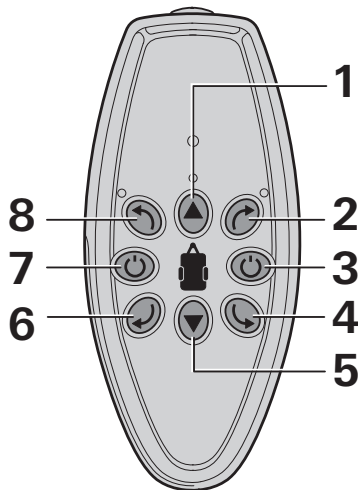
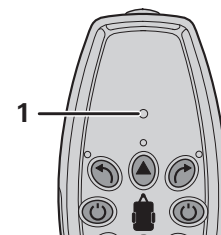

Figure 2
Figure 6
- Press the button (Figure 2 - 7) on the remote control until the LEDs light up (Figure 6 - 1).
The "Off" switch on the remote control (Figure 2 - 3) can also be used as an "emergency stop switch". In case of any problems, e.g. uncontrolled behaviour of the GO2, press the "Off" switch immediately.
– Use the direction buttons (Figure 2 - 1/2/4/5/6/8) to move the caravan in the required direction.
If you press opposite direction buttons simultaneously (Figure 2 - 2/6 or 4/8), the caravan rotates around its own axle in the respective direction.
– While moving (forward/backward), the driving direction can be changed with the direction buttons (Figure 2 - 2/8 and 4/6).
– Press the button (Figure 2 - 3) on the remote control. The LEDs go out.